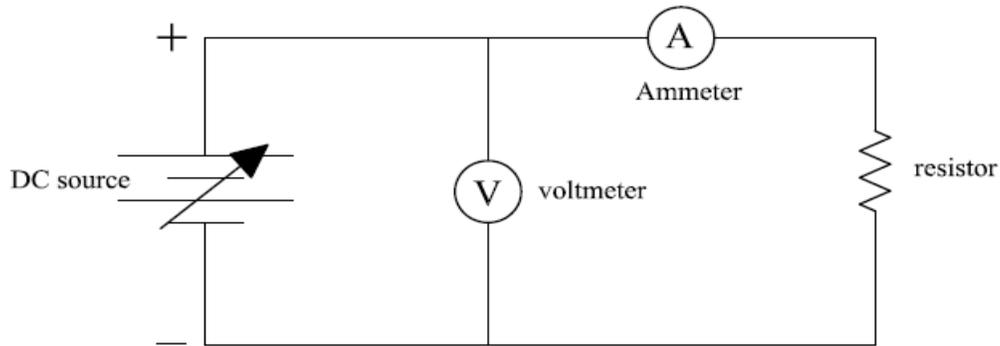

Fig.5: experimental circuit of part 2
- 1- Connect the circuit shown in Fig.5
- 2- Increase the applied voltage from the D.C power supply from (0 – 10) V, in step of (2)V, measure the current through the (1K Ω) resistor in each step and record the measured result in the second column of table.2.